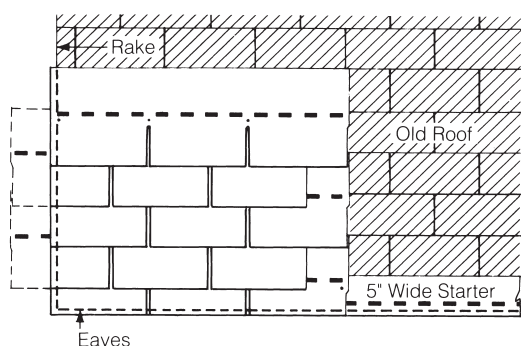

Figure 10-17: Vertical Racking, Nested.
2. Cut 6" off one side of the first starter shingle and install the 30" piece over the first course of the old shingles, at the lower left corner. This, and all other shingles, must nest with the butt edges of the old shingles (Figure 10-17).
2. Align the top edge of the 10" strips so they butt up (nest) against the tabs of the shingles in the old third course (Figure 10-17).
1. Cut 6" off the left end of a full shingle. Nest the top edge of this new 12" by 30" piece of shingle up against the bottom edge of the shingles in the old fourth course (Figure 10-17).
1. Begin the application of succeeding courses by alternating the use of full shingles and 30" shingles (6" off the left end) up the rake in a single column (Figure 10-17).